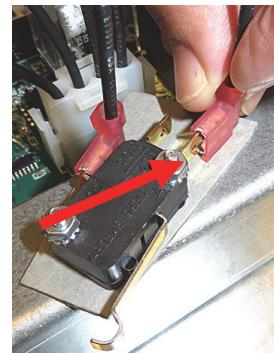

**Figure 22**
26. Plug in one of the 4 pin harnesses to the right side of the new board (see Figure 22).